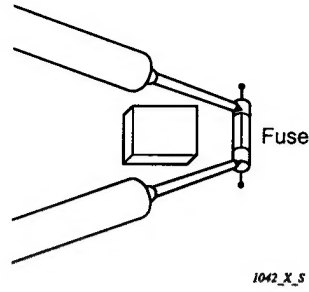

Fig. 11
⑤ Continuity of fuse on P.C.B. Ass'y
- Check for continuity using a multimeter as shown in Fig. 11.